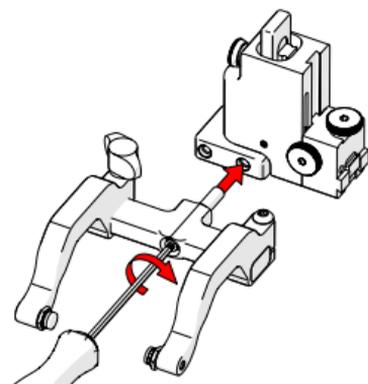

Fig. 127 - Screw into threaded hole
7. Screw the yoke to the probe holder (Fig. 127).